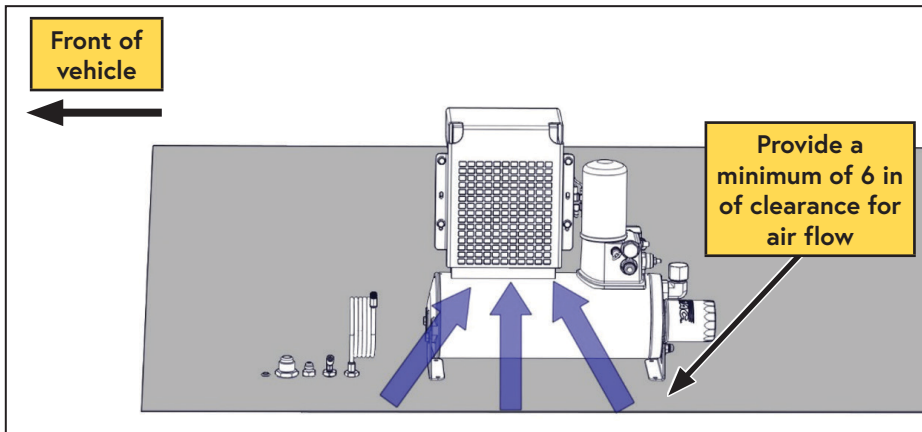

Figure 20 — WHASP ventilation
*A minimum of 6 in of clearance is recommended around the radiator (intake) side of the WHASP Tank to allow fresh, cool air to circulate into the cooler and fan (Figure 20).*